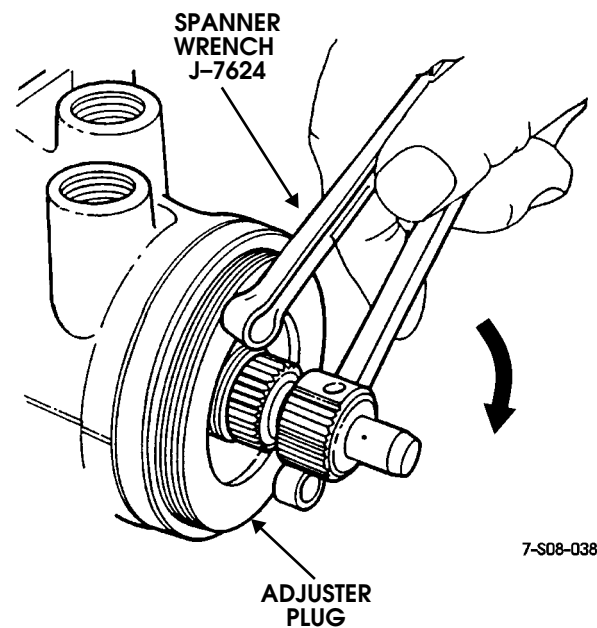

Figure 8-64: Seating Adjuster Plug
3. Tighten adjuster plug with spanner wrench J-7624 (Figure 8-64). Tighten plug until it and wormshaft bearing and races are fully seated (bottomed) in housing.